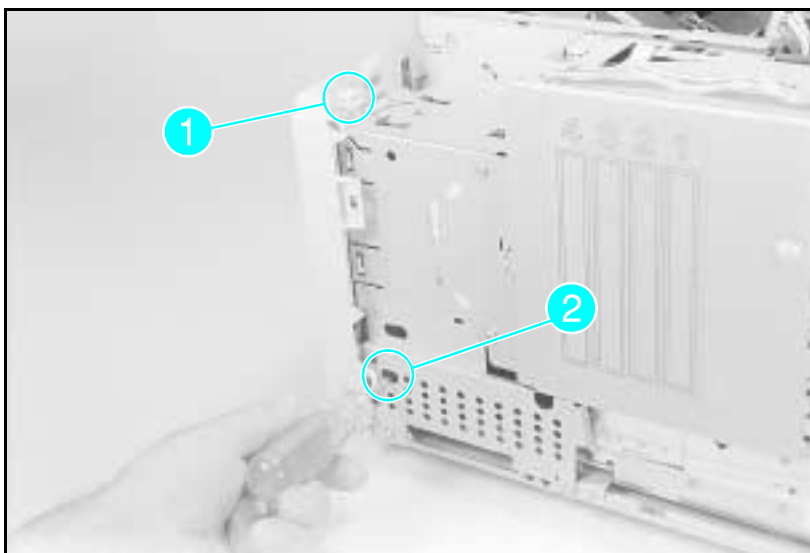
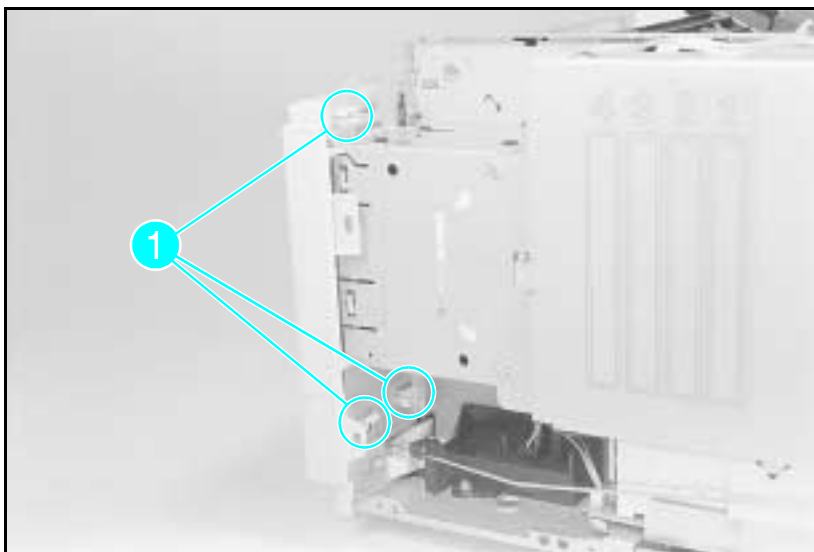

Figure 6-8 **Font Door Removal (LaserJet 4 shown)**
Figure 6-9 **Font Door Cover Latches**
- 2 Release the top latch (see Figure 6-8, callout 1).
- 3 Release the (2) lower latches through the access hole in the metal cover (see Figure 6-8, callout 2 and Figure 6-9, callout 1).
Figure 6-9 shows the metal side cover removed in order to show the Font Door latches. It is not necessary to remove the metal side cover to remove the Font Door.
- 3 Release the top latch. (See Figure 6-8, callout 1)
- 5 Release the (2) lower latches, one through the access hole in the metal cover (see Figure 6-8, callout 2), and one from the bottom of the printer (next to the Tray 2 guide).